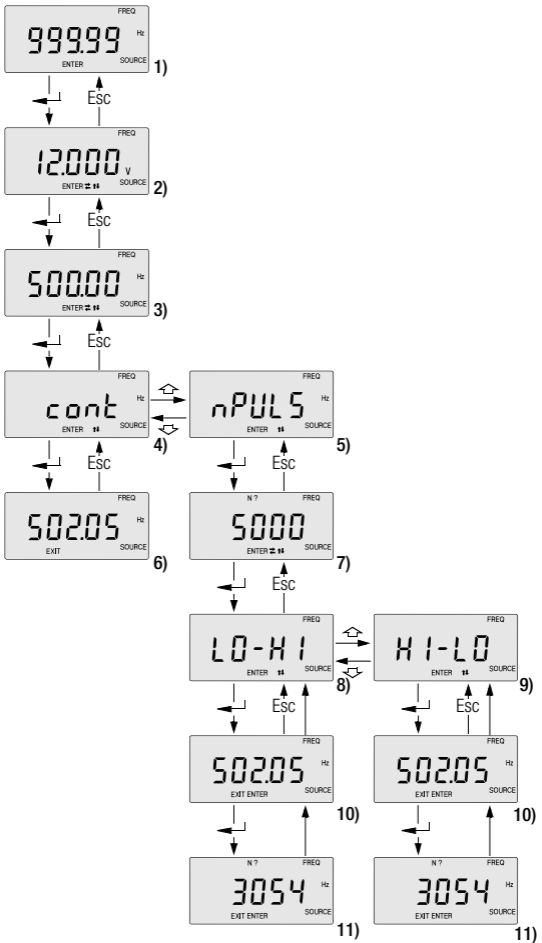

Figure 15 Menu Structure for the Pulse Generator
Figure 15 on the following page shows the menu structure which deviates from the basic scheme of the other basic functions.
**Legend for the individual menu positions in Figure 15**